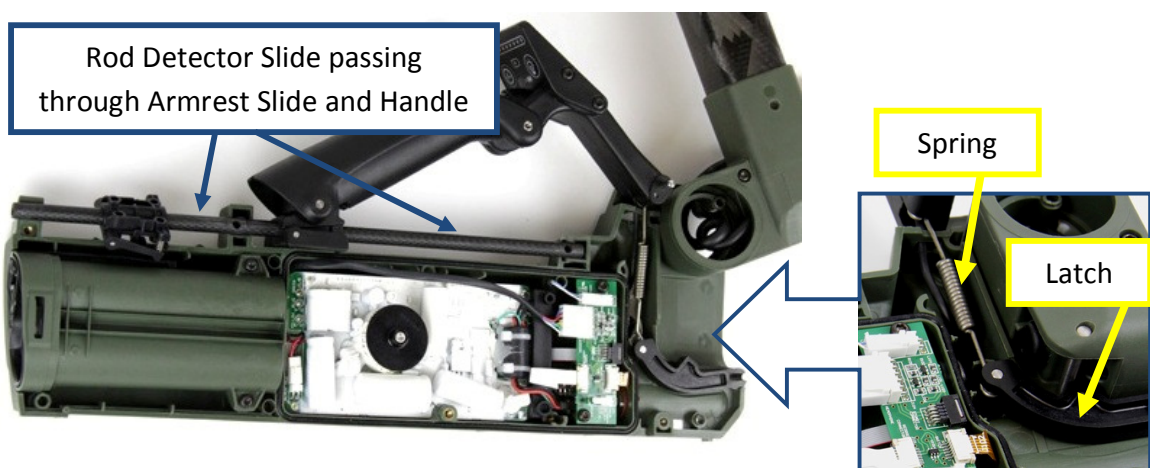

Figure 19: Latch Hinge and Spring Latch Hinge
- Check the latch hinge and spring latch hinge are still connected as shown in Figure 19.